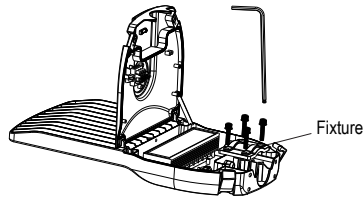

Figure 14
Step 3: Use an M6 hex wrench to remove the tube fixing buckle (Figure 14).